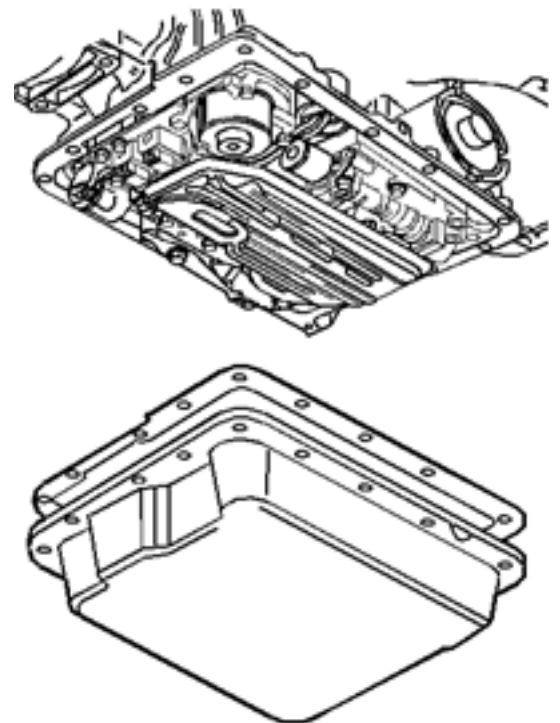

Figure 3
8. Remove the oil pan and gasket. **Reference Figure 3.**